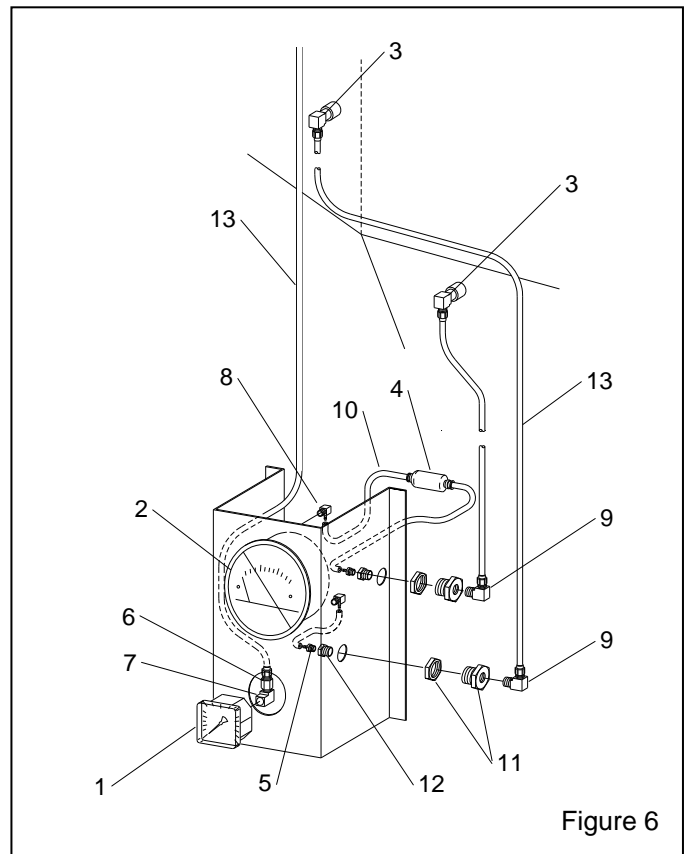

Figure 6
8.2 Differential Pressure Panel Assembly, Fig. 6